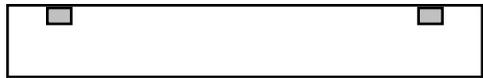

Figure 15
- Place 2-D fasteners on the inside surface of the side panels at the two locations shown in Figure 15. The panels are symmetrical, so either edge can be considered the top.